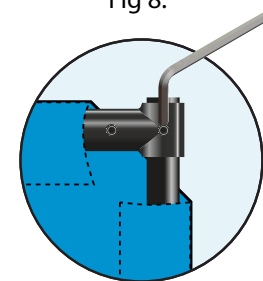

Fig 13.
10. Secure the T joint on the end of the pole by tightening the grub screws with the allen key provided. (Fig 13)